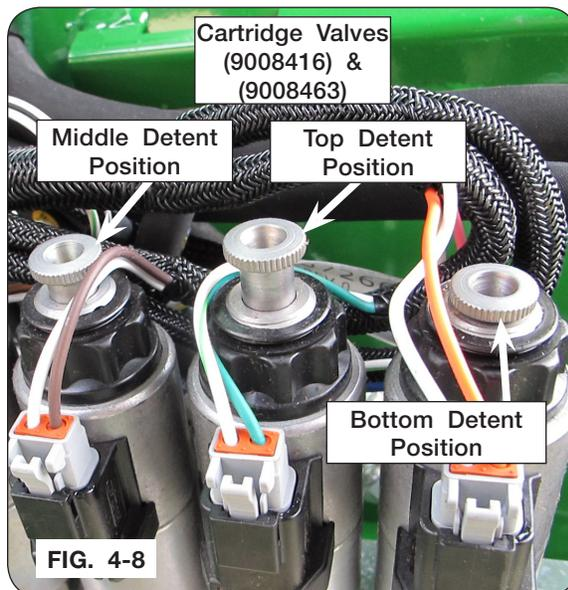

FIG. 4-8
NOTE: Only one cartridge valve (9008416 & 9008463) must be in the top or bottom detent position at a time to function properly. All other valves must be in the middle detent position. (FIG. 4-8 & 4-9)
5. Operate the desired function on valve (9008416 & 9008463) by rotating the manual override knurled knob from the locked neutral position. (FIG. 4-8, 4-9, & 4-11)
8. Return knurled knob to center and lock valve (9008416) & (9008463) in position. (FIG. 4-8, 4-9 & 4-11)